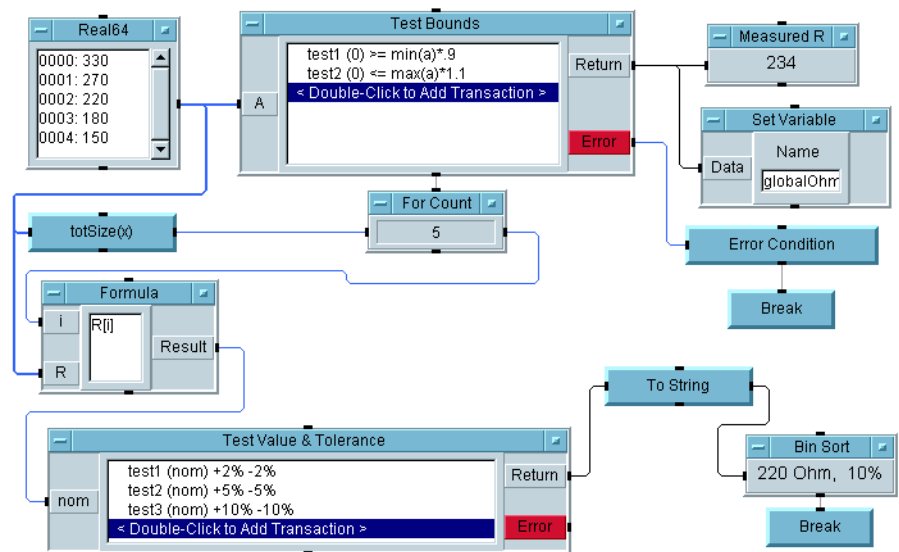
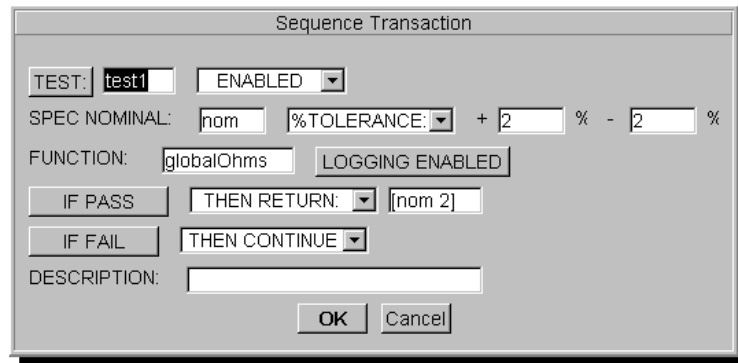

Figure 14-14. Improved Bin Sort Example
Figure 14-17. `globalOhms` Transaction
Although this approach is simple, it is not very efficient. You would need to create quite a large number of sequence transactions to test several resistance values, with three tolerances in each case. Figure 14-14 shows an improved version of the "bin sort" example.
Since the UserFunction `simResist` is only called once, you can replace it with a call to a different UserFunction. The example (`manual46.vee`, Figure 14-14) contains a second UserFunction, called `measResist`, which uses a Panel Driver to call an HP 3478A Digital Voltmeter configured for resistance measurements. If you have an HP 3478A meter, connect it via GPIB, change the `FORMULA` field in `test1` to the expression `measResist()`, and run the program.
- Regardless of whether simulated or measured resistance values are taken, the Test Bounds return value is displayed and is set as a global variable (`globalOhms`). For example, the three transactions in the Sequencer labeled Test Value & Tolerance (Figure 14-14) each call this global variable using the expression `globalOhms`. Figure 14-17 shows the first transaction expanded.